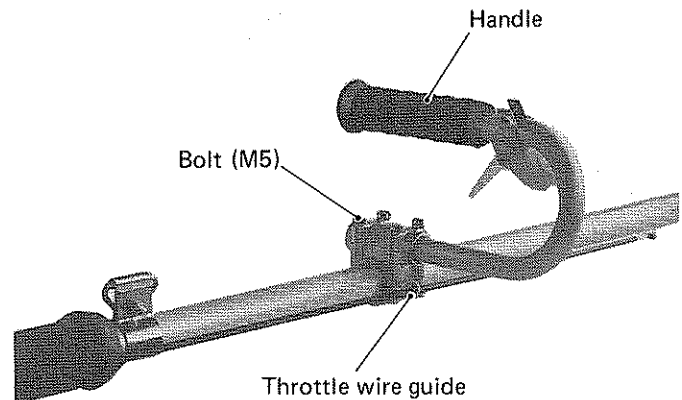

Figure 5
5. Install throttle wire clamp as illustrated. Insert the handle bar into the handle joint, making sure that the boss in the handle joint fits into the hole in the handle. After the handle bar is in place, tighten the four bolts. Figure 5. **BE SURE THE BOLTS ARE TIGHT, BUT DO NOT OVERTIGHTEN.**